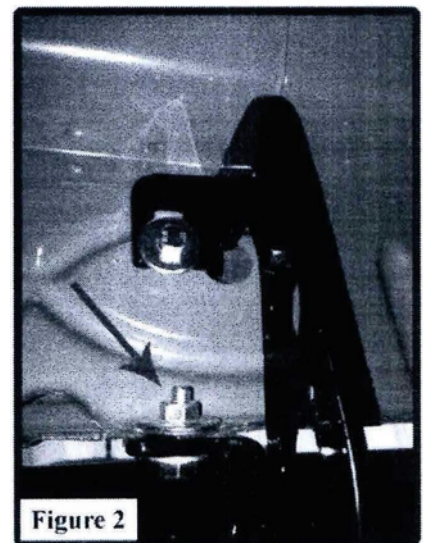

Figure 2
**STEP 4:** Align the steps with the mounting holes and starting from the front use 1 - M8-1.25 Bolt and 1 - Fender Washer for each mounting hole location and thread the bolts into the mounting holes. **NOTE:** Some vehicles require the use of an additional nut and washer for the lower portion of the mounting bracket as seen in Figure 2. The nuts and washers are supplied with the bolt kit.